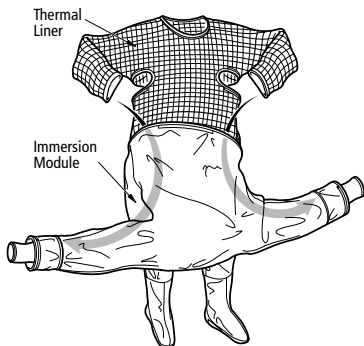

FIGURE 6
- Return the immersion module to its laid out position in Step 1. Push the left arm of the thermal liner down to the end of the left arm of the immersion module (see fig. 6).